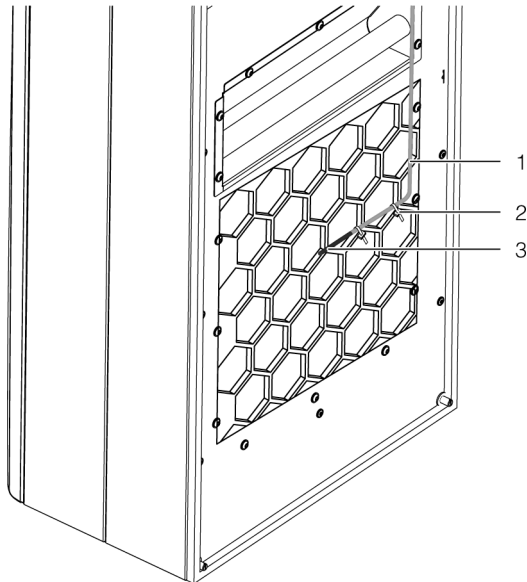

Fig. 23: Temperature sensor in front of cold air outlet (example illustration)
■ Attach the temperature sensor in front of the cold air outlet from the cooling unit, in the centre (fig. 23).